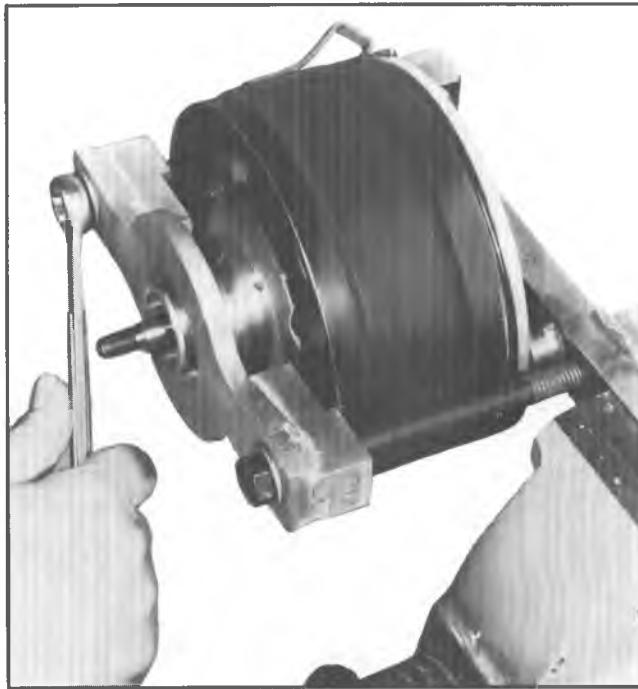

Fig. 94--Installing Shell Assembly
6. Push compressor shell as close to "O" ring (Fig. 94) as possible by hand and check for equal alignment of shell around cylinder. Tighten fixture screws finger tight.